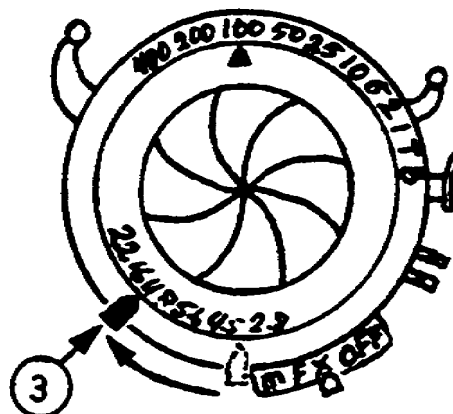

Figure 1-44. Lens Aperture Selector.
(c) Move the lens aperture selector ③ , (fig 1-44), until its pointer is opposite the desired f/stop number on the f/stop scale.